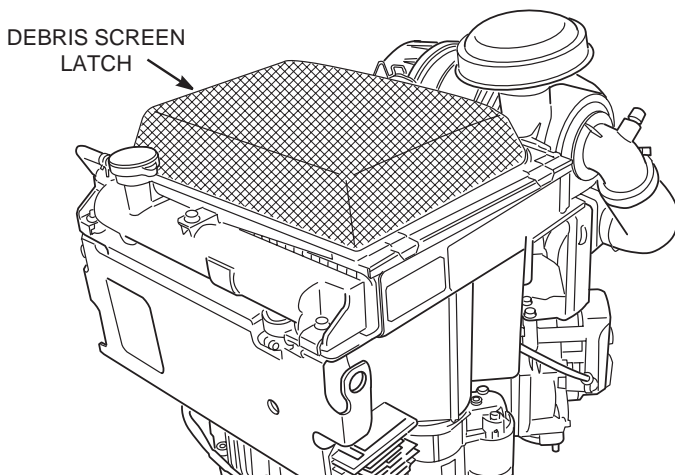

Figure 7-9. Debris Screen
1. Release the debris screen latch and pull the debris screen towards the latch to remove. See Figure 7-9.